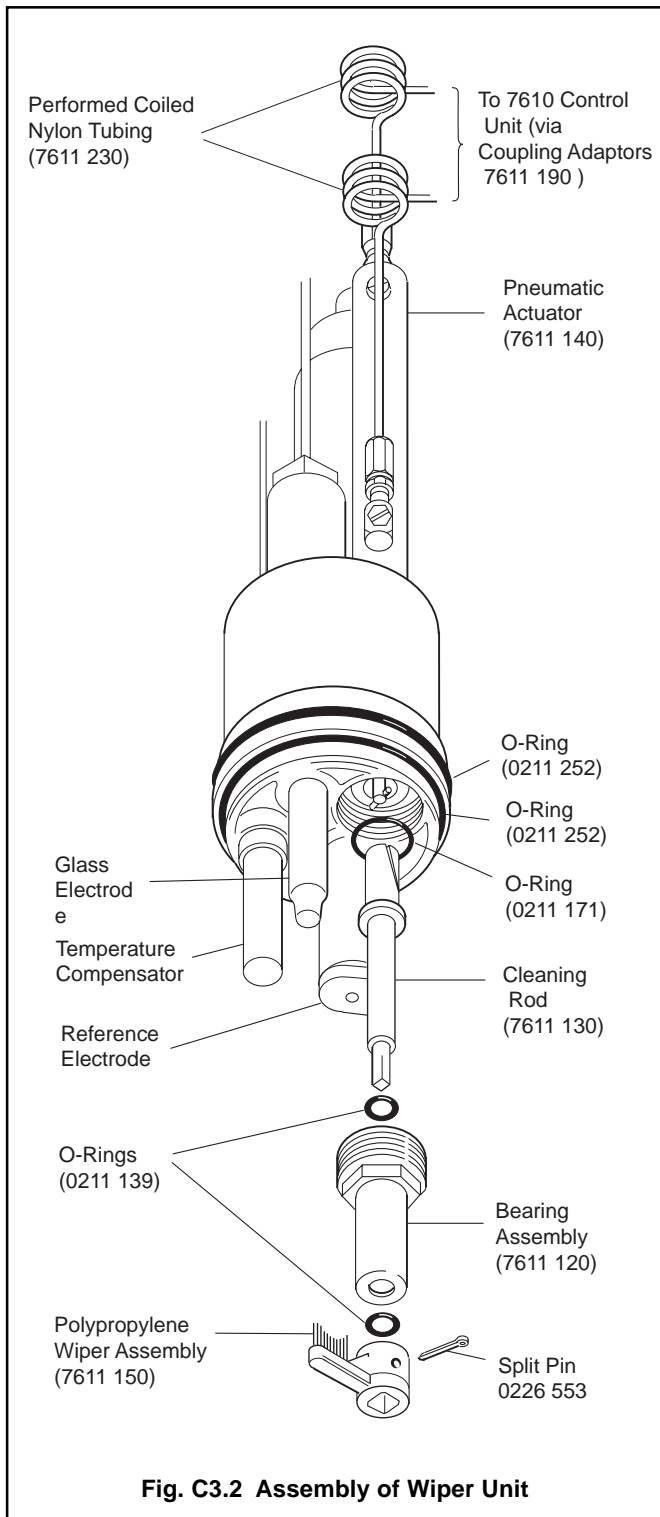

Fig. C3.2 Assembly of Wiper Unit
Fig. C3.2 shows the location of these items in the electrode system. The following instructions should be followed carefully to ensure correct operation of the wiper mechanism.
- g) Fit the O-ring (0211 171) from the kit into the groove on the sensor side of the block (position as shown in Fig. C3.2) and fit the cleaning rod (7611 130) so that the pin locates in the end of the rod in its spiral grooves.
In order to maintain continuity of operation of the Model 7610, a Spares Pack (7611 040) is supplied with the unit. It contains the following items, which are illustrated in Figs. C3.2 and C3.5: